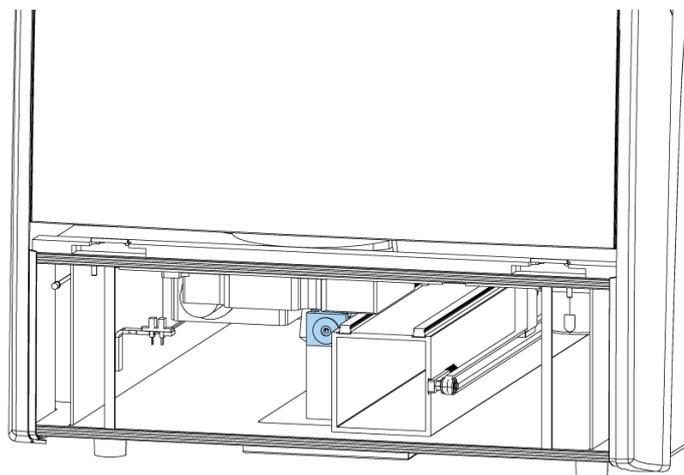

Figure 5–46 Internal view of the measurement chamber
- Replace the front cover by first inserting the two top door latches into place while at the same time turning the cover 30° and then snapping it shut (Figure 2–2 and Figure 5–45). Also close the dispensing sliding cover (arrows in the opposite direction than in Figure 3–21).